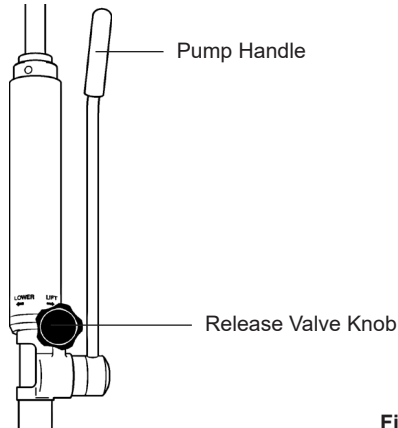

Fig. 10
6. Close the hydraulic unit release valve (Fig. 10) by turning the knurled black knob on the unit fully clockwise.
7. Pump the handle (Fig. 10) of the hydraulic unit and confirm the ram raises the boom.